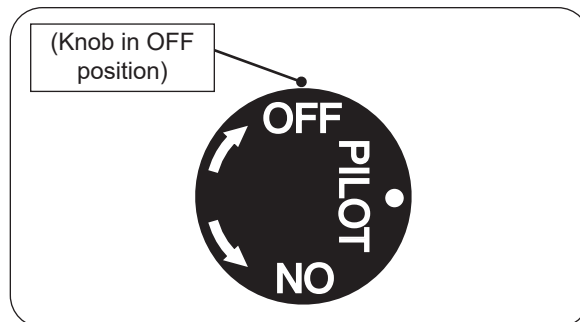

Fig. 32-2 Pilot shut down
2. Locate the valve on the side of the unit. Push in the gas control knob slightly and turn clockwise to **OFF** (see Fig. 32-2).
Push in the control knob slightly and turn clockwise to **OFF**. Do not force. See Fig. 32-2.